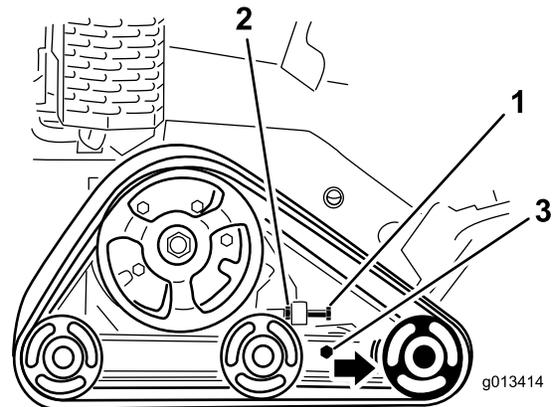

Figure 45
3. Loosen the jam nut on the track tensioning bolt and the clamp bolts on the tension arm (Figure 45).
4. Torque the tensioning bolt to 32.5 to 40 N-m (24 to 30 ft-lb) to tighten the track (Figure 45).
4. Back out the tensioning bolt and jam nut (Figure 45).
5. Loosen the clamp bolts (Figure 45).